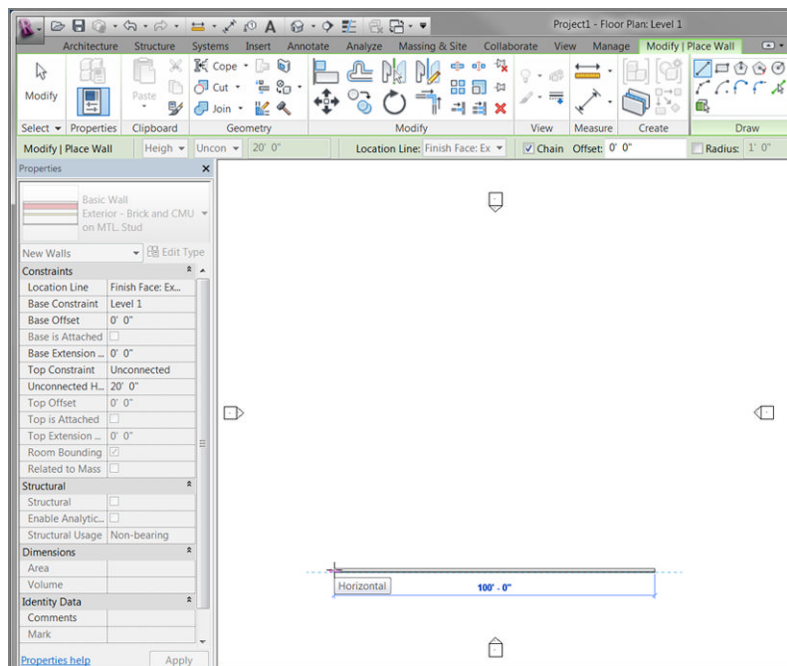

FIGURE 1.17: The procedure for drawing a wall in Revit Architecture
1. With the Wall command still running and the correct wall type selected, position your cursor in a location similar to the illustration in Figure 1.17. Pick a point in the view window.
dimension is a temporary dimension for you to use as you place items. Type 100' (30000mm), and press the Enter key. Notice that you didn't need to type the foot mark (') or mm. Revit thinks in terms of feet or millimeters. The wall is now 100' (30000mm) long (see Figure 1.17).